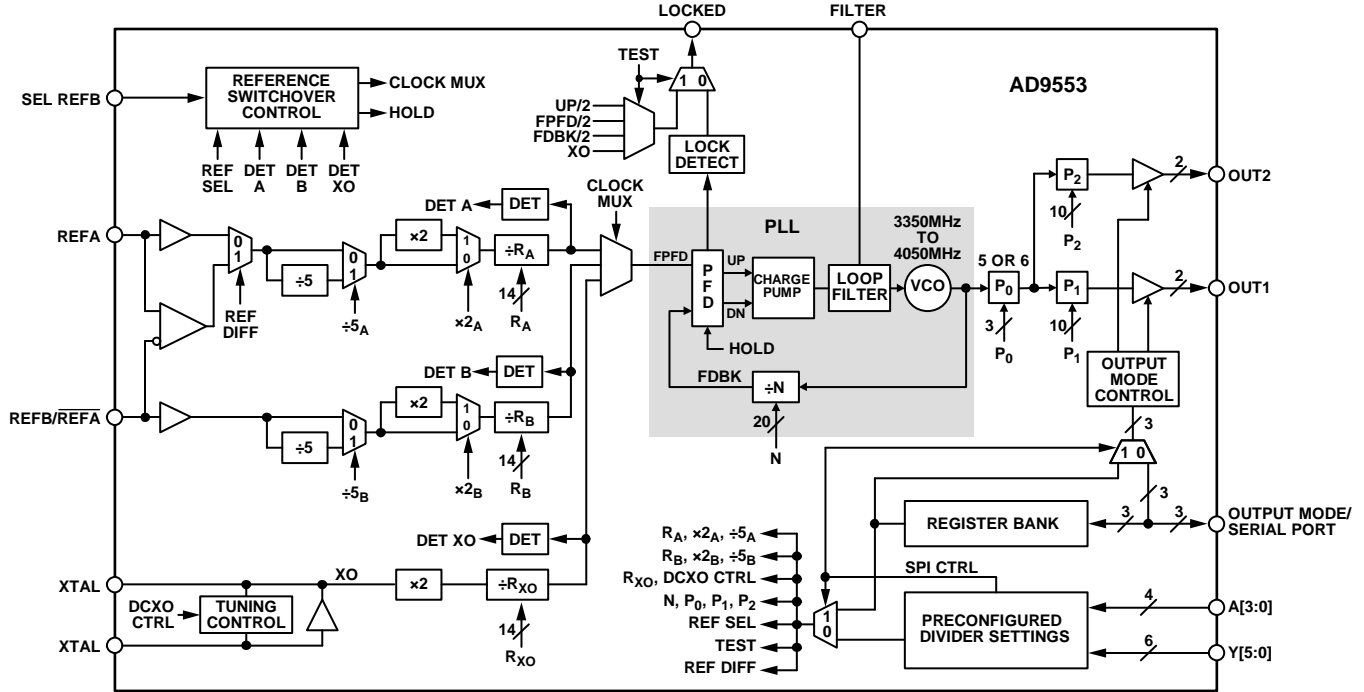
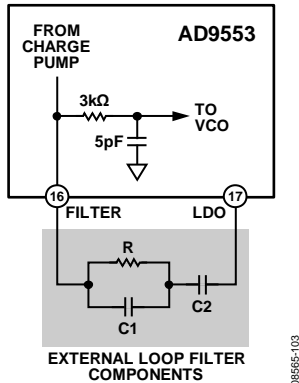

Figure 20. Detailed Block Diagram
Figure 22. External Loop Filter
Generally, the clock signals that appear at the input to the clock multiplexer (see Figure 20) all operate at the same frequency. Thus, the frequency at the input to the PLL (FPFD in Figure 20) is the same regardless of the signal selected by the clock multiplexer. The PLL converts FPF2 to a frequency within the operating range of the VCO (3.35 GHz to 4.05 GHz) based on the value of the feedback divider (N). The VCO prescaler (P0) reduces the VCO output frequency by a factor of either 5 or 6,
The PLL (see Figure 20) consists of a phase-frequency detector (PFD), a partially integrated analog loop filter (see Figure 22), an integrated voltage-controlled oscillator (VCO), and a 20-bit programmable feedback divider. The PLL generates a 3.35 GHz to 4.05 GHz clock signal based on the frequency of PFD (see Figure 20) and the feedback divider value, which is phase-locked to the input reference signal.
The charge pump in the PFD delivers current to the loop filter (see Figure 22). The main components of the loop filter are external and connect between Pin 16 and Pin 17. Note that to achieve the best jitter performance in applications requiring a loop bandwidth of less than 1 kHz, C1 and C2 must have an insulation resistance of at least 500  $\Omega$ F.